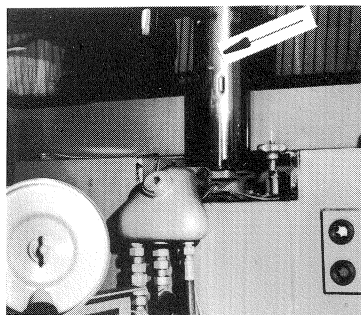

Fig. 45
- Pull up filter cartridges complete with casing bottom (Fig. 45/arrow) and carry out other operation outside the swing shovel loader.